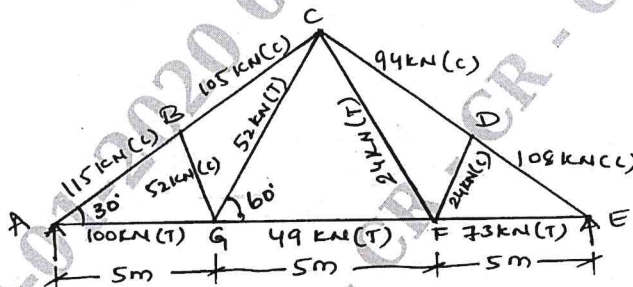

Fig.Q.3
- 3 Design a roof truss shown in Fig.Q.3 with forces in each member along with its nature. Also design end with gusset plate using black both of property class 4.6. Also design the supports consisting of shoe angle and bearing plate by considering support reaction of 150kN. Anchor both are subjected to an uplift of 15kN at each support. M20 concrete is used at the supports. Draw to a suitable scale: